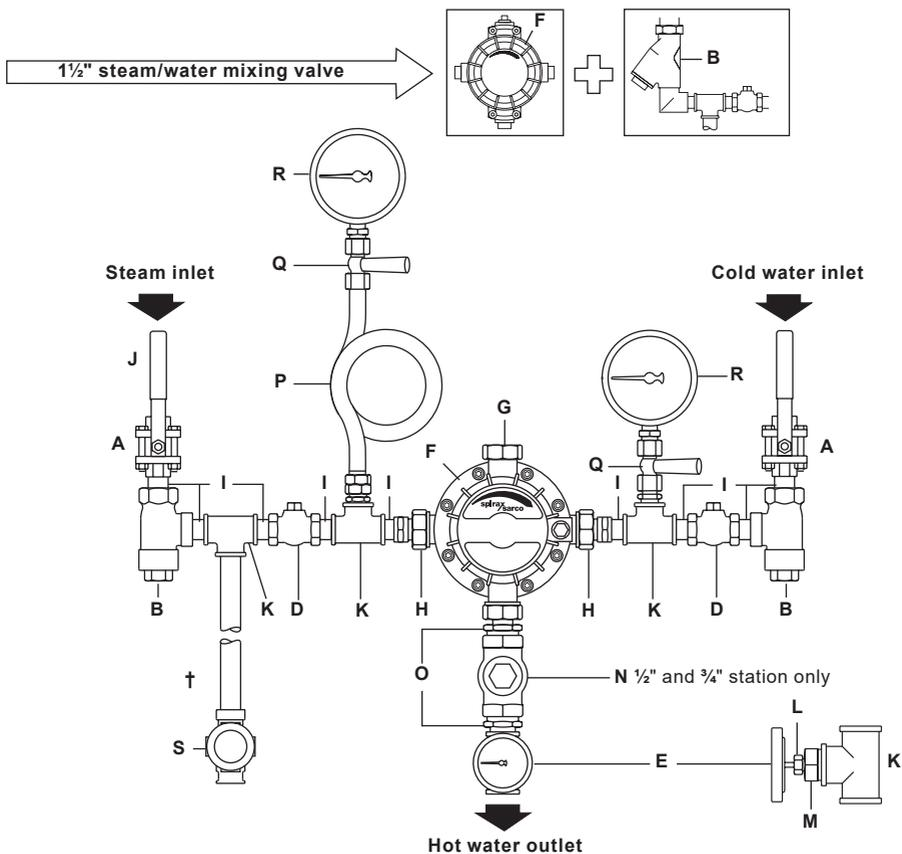

Fig. 4
The steam/water mixing valve should be carefully unpacked and the contents checked against the packing list. (See Figure 4). The steam/water mixing valve has two hot water outlets which means that hot water can always flow downwards from the valve regardless of the orientation of the steam and cold water supply lines. Plug the hot water outlet that is not being used.
The pipework should be assembled according to Figure 4 using a suitable thread sealing medium. The temperature cut-out valve (N) is only provided on ½" and ¾" sizes.
To connect the hot water supply pipework to the hot water outlet of the steam/water mixing valve first screw the thermometer 'T' piece and TCO1 to the hot water pipe. This arrangement should then be attached to the steam/water mixing valve using the hot water outlet union fitted to the mixing valve. Care should be taken to ensure that the dial face of the thermometer and the hexagon cap of the TCO1 are in line with the temperature adjustment knob (see Figure 4).
When replacing a steam/water mixing valve in a mixing valve station the spool pieces supplied must be installed between the pressure gauge 'T' piece and the mixing valve union in the steam and cold water supply lines. This will take account of the smaller overall dimension of the replacement valve. Connect the pipework fittings according to Figure 4 using a suitable thread sealing medium. The TCO1 is installed between the hot water outlet of the mixing valve and the equal 'T' that houses the thermometer. The TCO1 is connected to the equal 'T' using a 1" x 3/4" reducing nipple. The other end is connected to the valve via a reducing nipple and the male/female union joint on the mixing valve. Care should be taken to ensure that the hexagon cap is in line with the dial face of the thermometer when the arrangement is tightened into the valve. To attach the hose to the thermometer 'T' piece first screw the male/male equal nipple into the 'T' piece. The hose is then connected to the male/male equal nipple via the female union on the hose (see Figure 6).